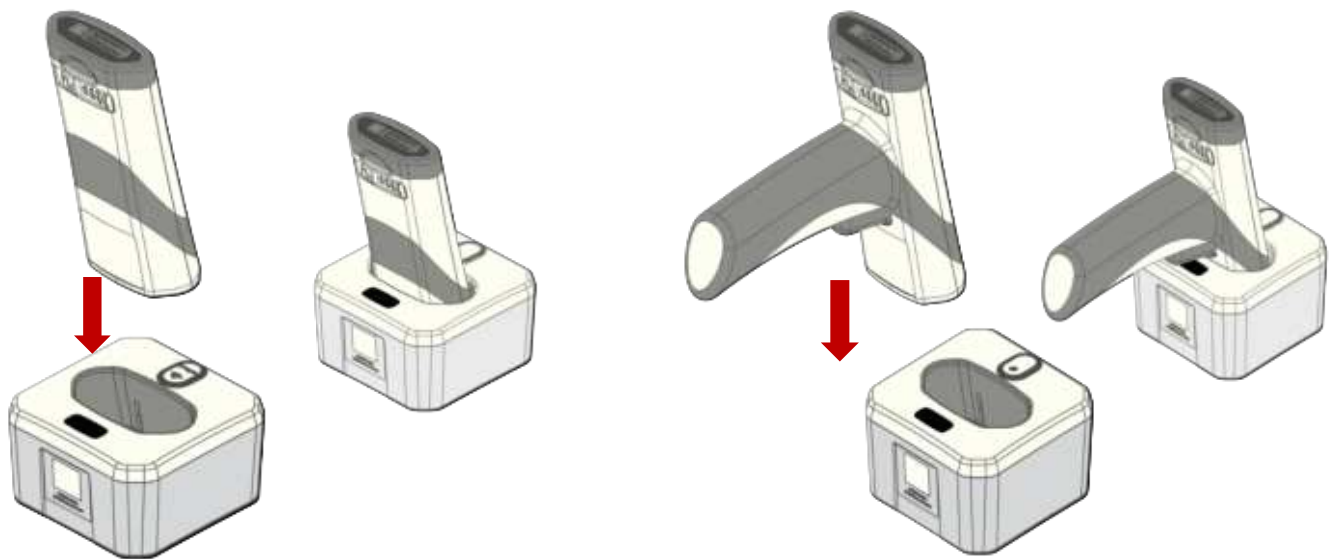

Figure 11 Charging Reader in Charging Station
5.10.1 To charge the battery installed in the reader, place the reader in the charging station with the scan window facing down (Figure 11). The reader will beep once if the reader is powered off and wakes up, another beep if the reader has been paired with the charger and reconnects. The Power Gauge LEDs on the battery will start flashing 4 seconds on and 1 second off alternately. Once the battery is fully charged, the Power Gauge LEDs will stay on solid. The battery will be fully charged in approximately 3.5 hrs when using the charging station with an external power supply (CRA-P4). Charging time may vary if the inductive charger is connected to a PC USB port.